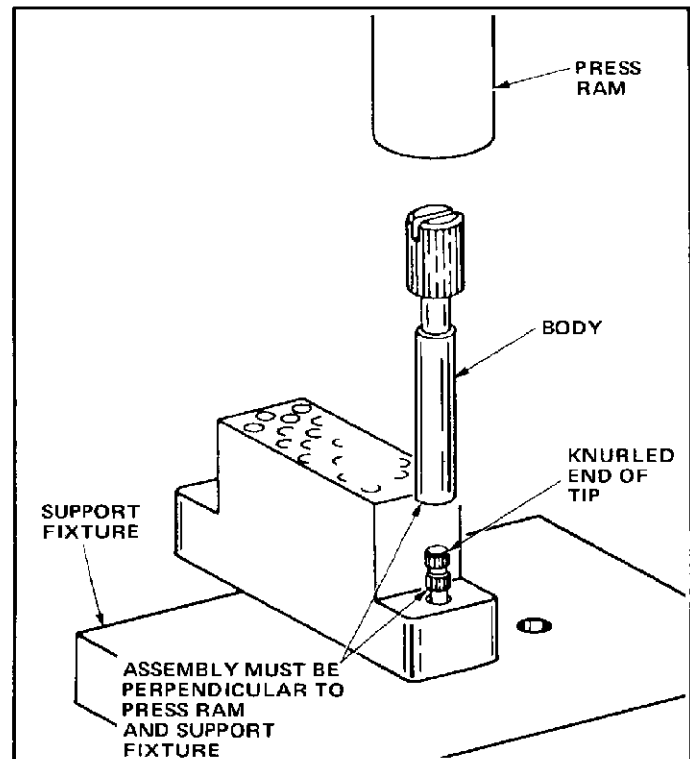

FIGURE 3
2. Position housing jackscrew hole over knurled end of tip as shown in Figure 3.